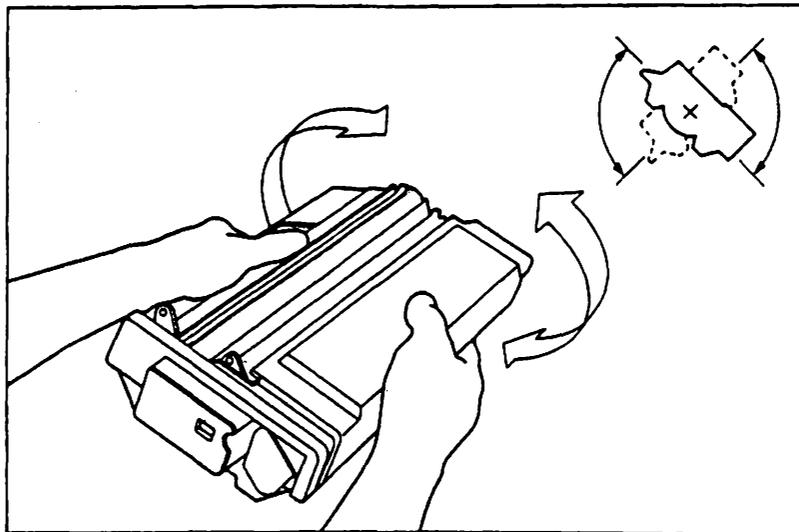

Figure 1-8
1. When installing a cartridge, hold it horizontally and rock it slowly back and forth 45°, to distribute the toner. (See Figure 1-8.)
CAUTION: To avoid toner spillage after a toner cartridge's seal is broken, hold it by the handle and rear only, as shown in Figure 1-8.